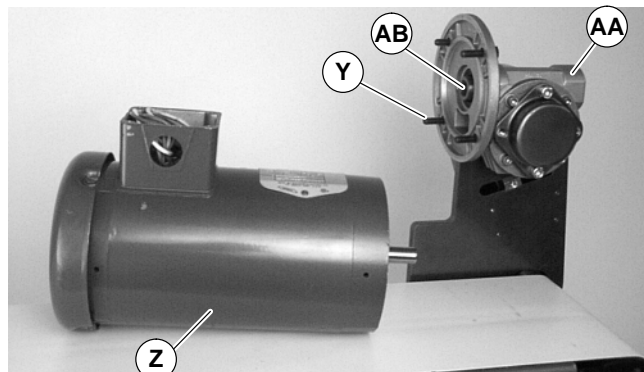

Figure 20
4. Remove four screws (Y of Figure 20). Detach motor (Z) from gear reducer (AA). Retain motor output shaft key (AB).